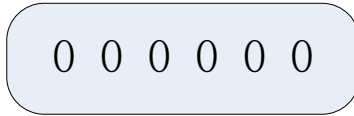
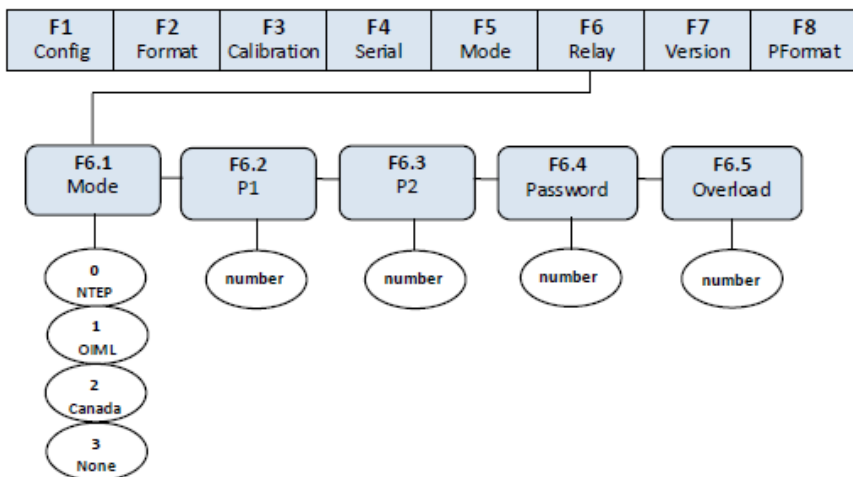

Fig. 10.2 Editing Procedure for Numerical Values
Fig. 12.1 Relay Output Menu
- 2) Press  until the display shows "F3" (see Fig. 10.2). Press  to go to zero calibration mode. Display shows "F3.1".
- 4) When display shows "F3.2", place test weight on the scale and press  to show the test weight value. Follow Fig. 10.2 to input the test weight value, then press  to save the value and go to the next menu. Display shows "F3.3".
- 2) Press  until the display shows “F3” (see Fig. 10.2). Press  to go to zero calibration mode. Display shows “F3.1”.
- (3) Press  when display shows "F5.2". Display shows and asks a code number for your count items average weight settings. The code number will be saved in the memory and represents the code for your count items average weight settings. The code numbers are from 01 to 99. The code "00" is reserved for Fast Setup of Count Items Average Weight (refer to Section 7.3.8). Follow the procedure in Fig. 10.2 to input and edit the code number. Press  to save the code number and proceed to the next menu. The display shows "F5.3".
- (4) Remove all the weight from the scale platform when display shows "F5.3". Press  to zero the scale. Display shows "CAL" while processing the zeroing operation. When completed, display shows "F5.4"
- (5) Press  when display shows "F5.4". Display shows the sampling quantity of the count items. Use ,  keys to specify the sampling quantity. Place the samples in the platform of the scale. The quantity of the samples must be the same with what you specified in the sampling quantity. Press  to proceed to the next menu. Display shows "F5.5".
- (6) Press  when display shows "F5.5". Display shows "CAL" while processing the average weight setting. When completed, there are two (2) possible outcomes :
- (1) Turn on the SW2 switch to set indicator to the Configuration mode (display shows “F1”).
- (2) Press \triangleright until display shows “F6” (see Fig. 12.1). Press ∇ to go to the Relay Output Menu. Display shows “F6.1”.
- (3) When the display shows “F6.1”, press \triangleright to go to the F6.2 Menu and display shows “F6.2”.
- (4) When display shows “F6.2”, press ▼ and display shows the value of Relay 1 setting. Edit Relay value according to editing procedures in Fig. 10.2. When completed, press ○ to store the value and return to F6.3 Menu. Display shows “F6.3”.
- (5) When display shows “F6.3”, press ▼ and display shows the value of Relay 2 setting. Edit Relay value according to Fig. 10.2. When completed, press ○ to store the value and return to F6.1 Menu. Display shows “F6.1”.
- (6) Turn off the SW2 switch to exit from Calibration mode and enter into Weighing Mode.